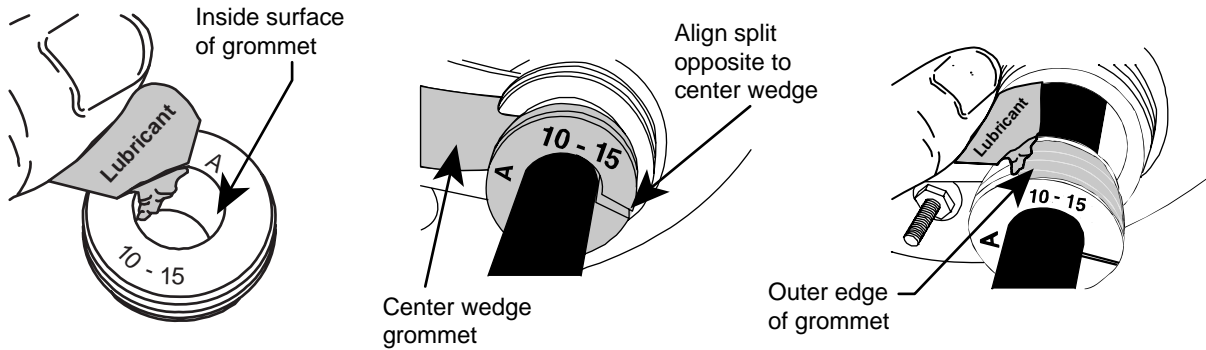

Figure 6
4. **(Express cables only)** Lubricate the express cable grommets – (Figure 6).